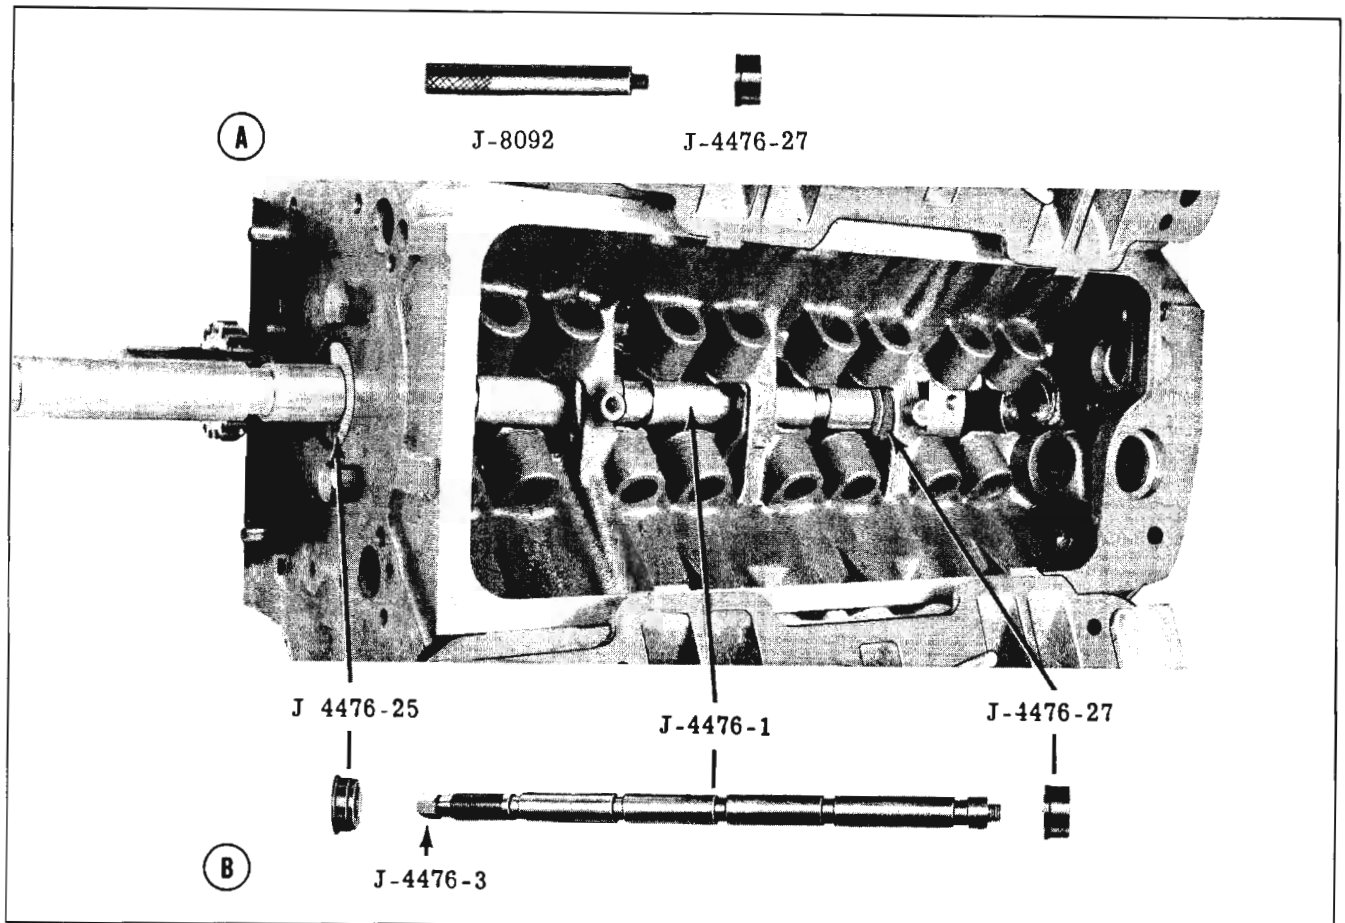

Fig. 8-40 Removing No. 4 Camshaft Bearing (Typical of 1, 2 & 3)
1. Assemble tools as shown in Fig. 8-40 (Inset "A") and remove No. 1 camshaft bearing by driving it rearward. Remove old bearing from J-4476-27 and repeat procedure on No. 2 bearing.
2. Assemble tools as shown in Fig. 8-40 (Inset "B") and remove No. 3 bearing. Remove old bearing from J-4476-27 and repeat procedure on No. 4 bearing.